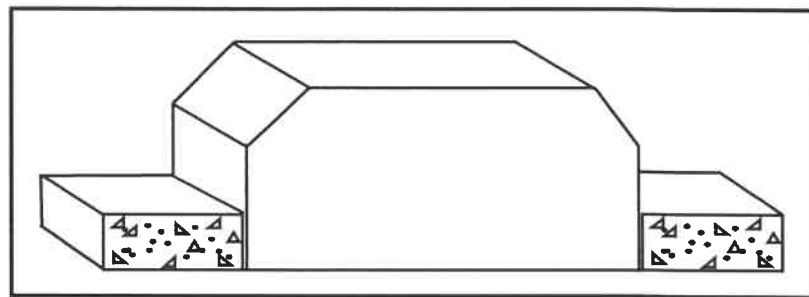

FIGURE 6.4
- 6.4 FIGURE 6.4 below shows a faulty installation of a rib and block floor construction.
Analyse FIGURE 6.4 and answer the questions that follow.
- 6.4.2 Draw a neat freehand drawing in your ANSWER BOOK and rectify the faults in FIGURE 6.4.